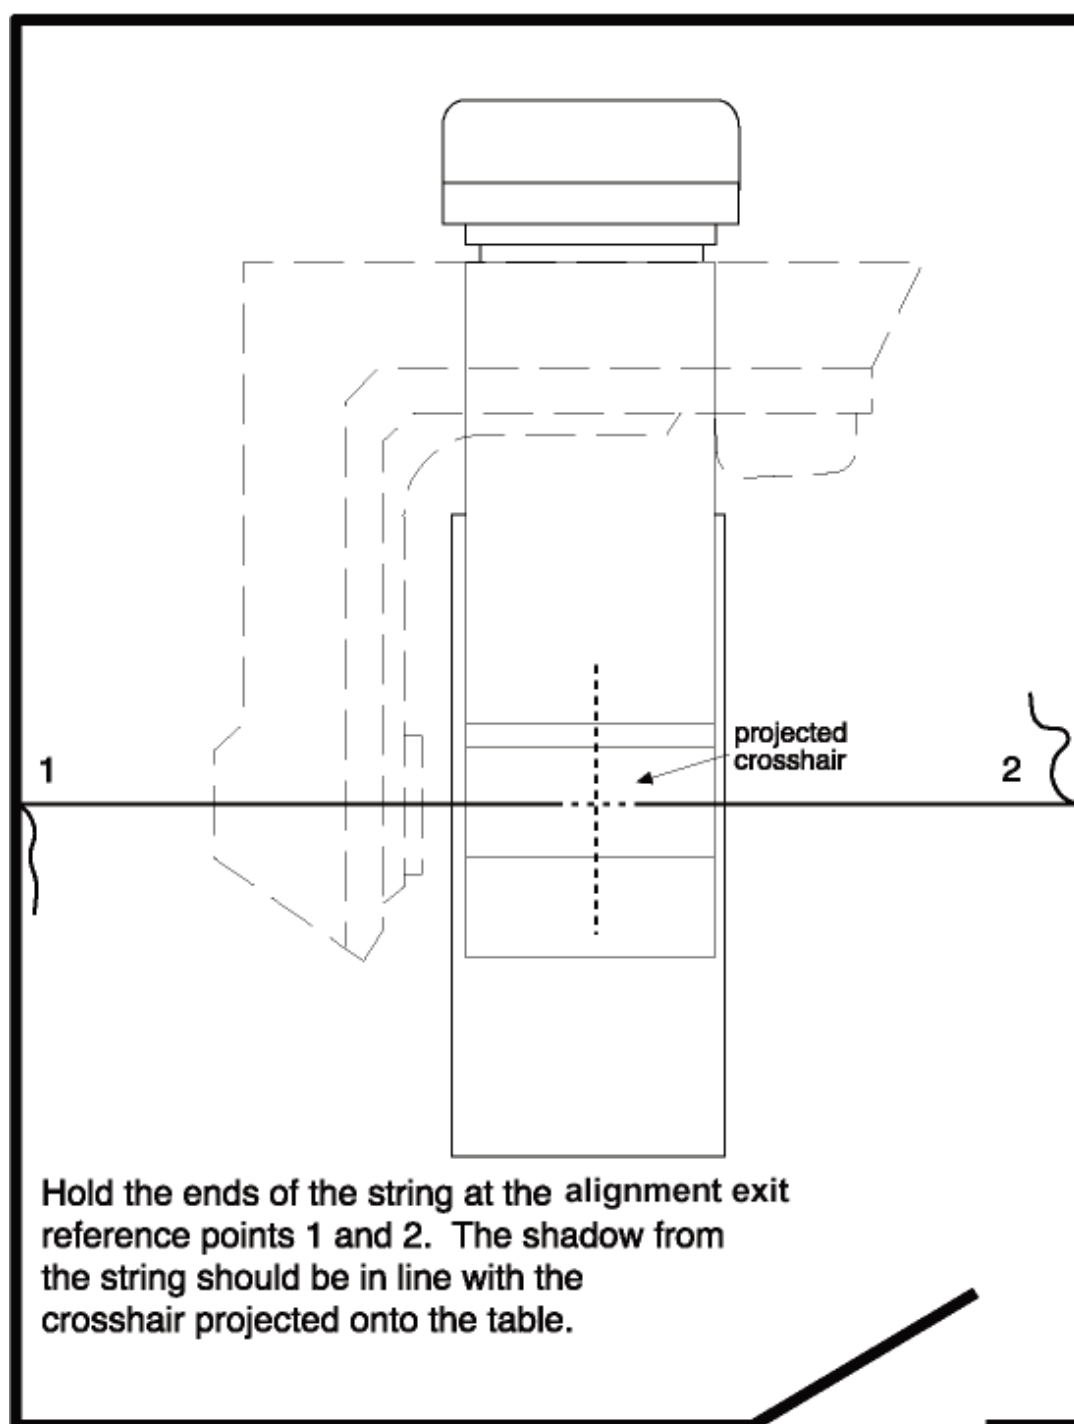

Figure 4
9. Hold the ends of a string on each wall at the center of the crosshair traced in step 2. The string shadow should be in line with projected crosshair. See Figure 4 on page 12.
5. Hold the ends of a string on each wall until the string shadow is in line with the projected crosshair. Several people may be needed. See previously mentioned Figure 4.